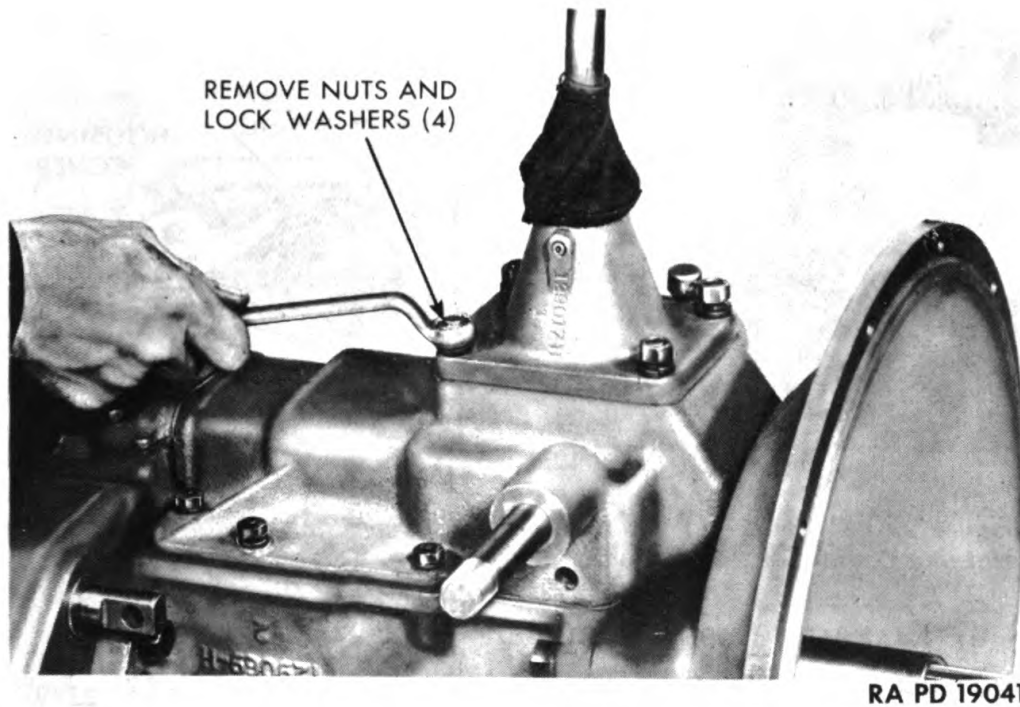

Figure 119 — Removing Shifter Housing Cover Nuts
b. Remove Transmission Shifter Housing Cover Assembly. Place transmission gears in neutral position. Remove four nuts and lock washers from housing studs (fig. 119). Lift off shift lever and housing cover assembly, and remove gasket (fig. 120).